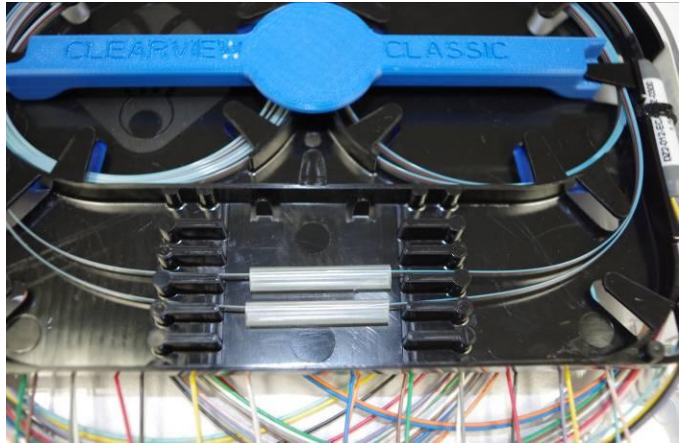

Figure 6
- Step 6:** Once both assemblies have been spliced, slide the fiber back into each slack storage loop. Then, place a small pea sized amount of silicone in the splice tray and nest the splice into the silicone to secure the splice sleeve to the splice tray (**Figure 6**).